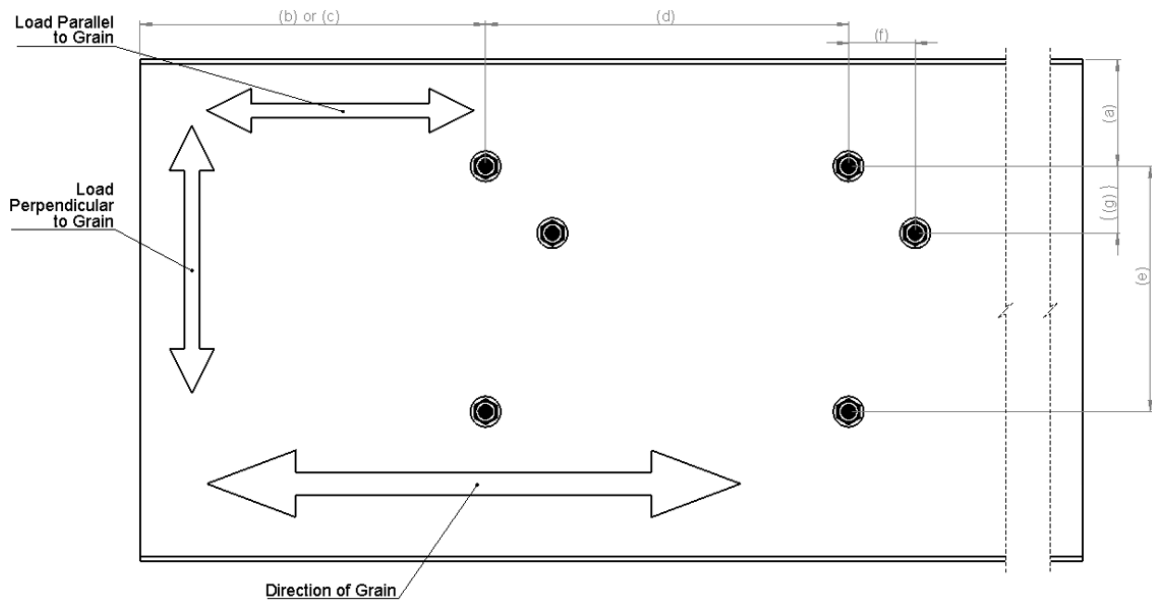

**Figure 1. SPAX® PowerLags® Series Fastener Spacing**
- 1.8 Minimum requirements for fastener spacing, edge distance, and end distance shall be in accordance with Table 1. See Figure 1 for additional details.